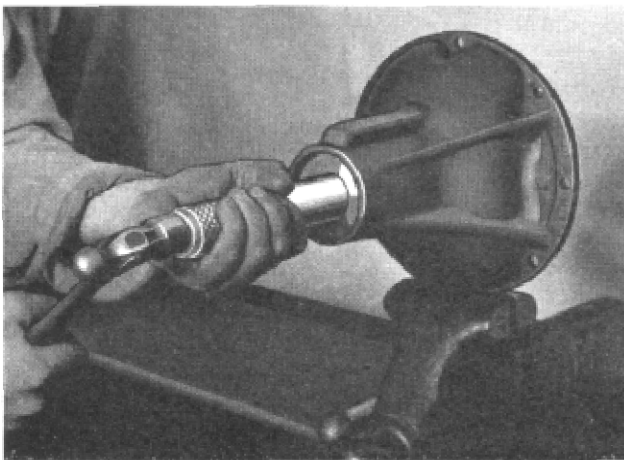

Figure 12
(37) Install pinion shaft front and rear bearing cups in carrier, using pinion bearing cup replacer J-270-1-6 (Fig. 12).